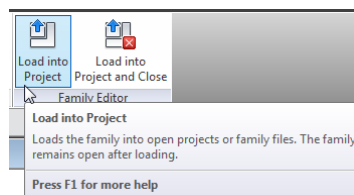

Figure 12
1. With your Box Family active, on the ribbon, click the Load into Project button (see Figure 12). Place it anywhere inside the building.